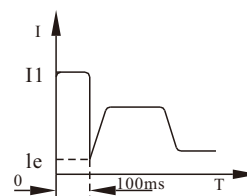
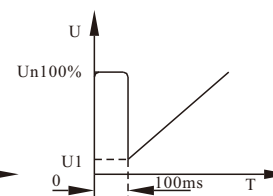

Figure 12
Figure 13
- Figures 12 and 13 show the output waveform of this mode. It is used in heavy-load applications where the motor cannot start due to high mechanical static friction. At startup, a high fixed voltage is applied to the motor for a short period to overcome static friction and initiate rotation, followed by current-limit (Figure 12) or voltage ramp (Figure 13) starting.